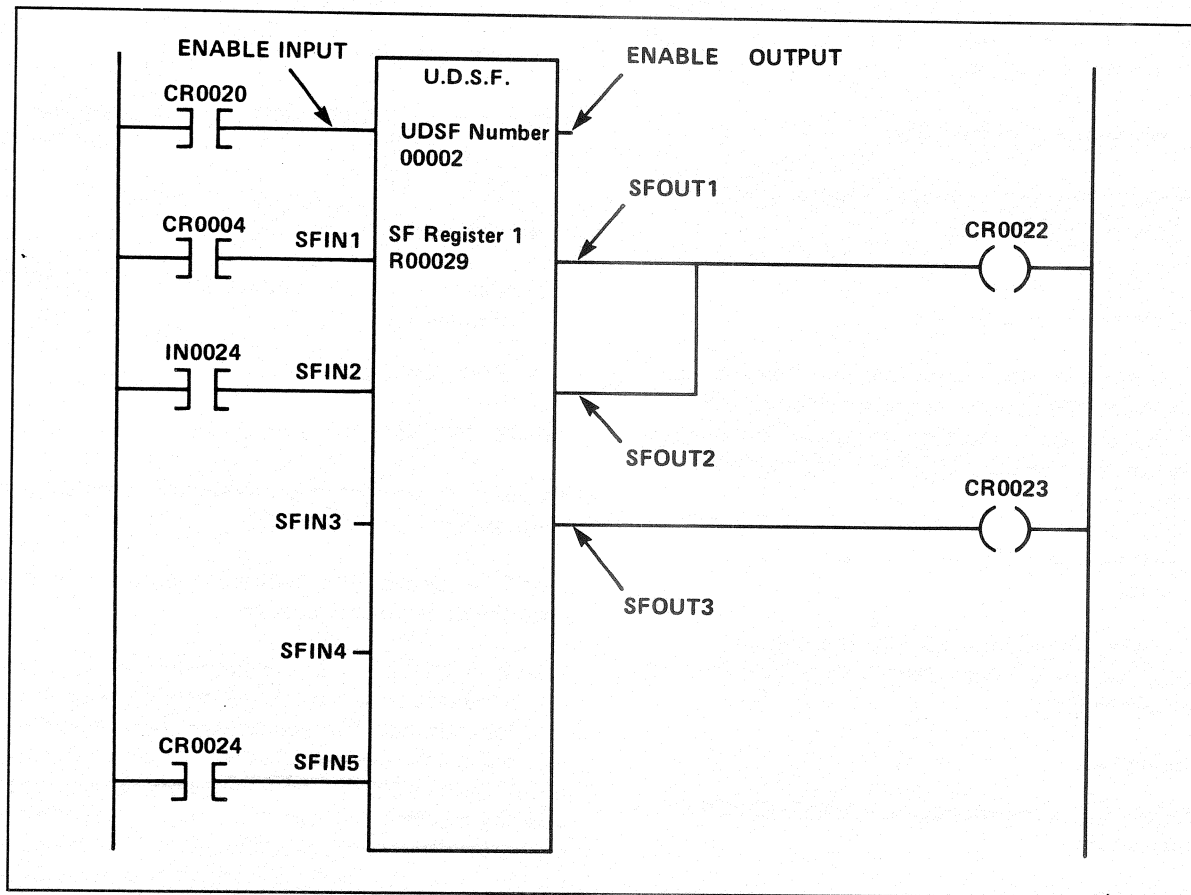

Figure 8-16. UDSF Block
1. The UDSF function block inputs SFIN1 thru SFIN5 are located on the left side of the function block. Care must be exercised when connecting the inputs to insure that the contacts connect to the correct input. The labels SFIN1 thru SFIN5 shown in Figure 8-16 are **not** actually identified on the ladder diagram display. Simply count the inputs. The highest input on the left side is the enable input; the second input from the top is the SFIN1 input; etc.